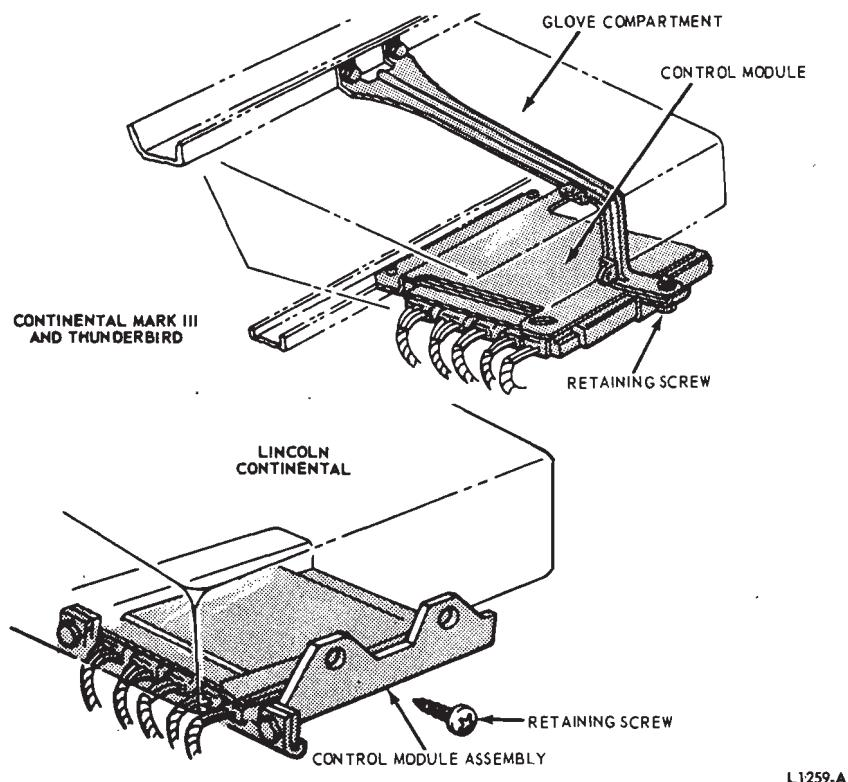

FIG. 12—Control Module Removal
1. Working in the passenger compartment, under the glove box, remove the screw that attaches the forward end of the control module retainer to the support assembly (Fig. 12). Lower the forward end of the control module retainer and remove the module assembly.
2. Remove the screw(s) that attaches the forward end of the control module retainer to the support assembly (Fig. 12).